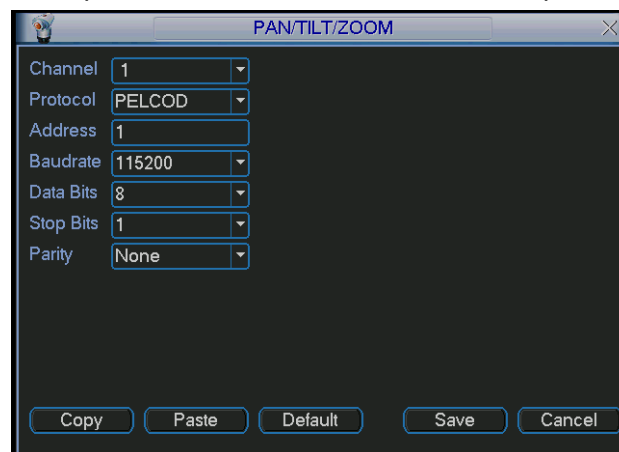
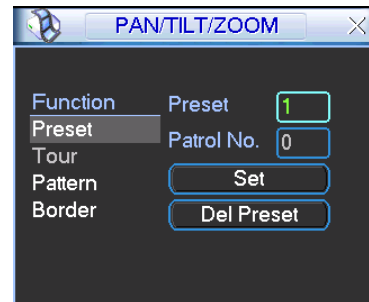
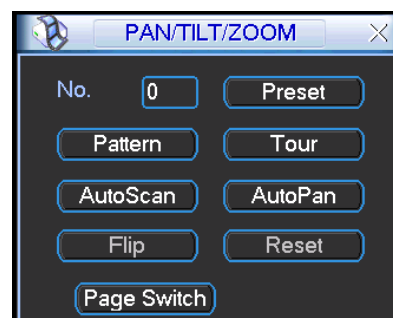

Figure 4-30
Figure 4-35
Figure 4-36
In the main menu, click setting, and then click Pan/Tilt Control button. The interface is shown as in Figure 4-30. Here you can set the following items:
In Figure 4-32, please click the “set” button. The interface is shown as below. See Figure 4-35. Here you can set the following items:
In Figure 4-32, click page switch button, the interface is shown as in Figure 4-36. Here you can activate the following functions:
- The following setups are usually operated in the Figure 4-32, Figure 4-35 and Figure 4-36 .
In Figure 4-35, click preset button and input preset number. The interface is shown as in Figure 4-37.
In Figure 4-36, please input preset number in the No. blank, and click preset button.
In Figure 4-35, click patrol button. The interface is shown as in Figure 4-38. Input preset number and add this preset to a patrol (tour). For each patrol (tour), you can input max 80 presets.
In Figure 4-35, input patrol (tour) number in the No. blank and click patrol button
In Figure 4-35, click pattern button and then click "begin" button. The interface is shown as in Figure 4-39. Then you can go to Figure 4-32 to modify zoom, focus, and iris.
In Figure 4-36, input mode value in the No. blank, and click pattern button.
In Figure 4-35, click border button. The interface is shown as in Figure 4-30.
In Figure 4-36, click "Auto Scan" button, the system begins auto scan. Correspondingly, the auto scan button becomes Stop button. Click stop button to terminate scan operation.
In Figure 4-36, click page switch button, you can see an interface is shown as below. See Figure 4-41. Here you can set auxiliary function. The aux value has relation ship with the Aux button of the decoder.